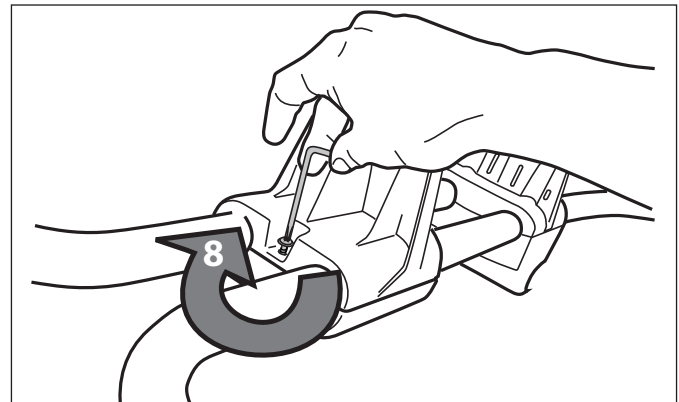

**Figure 5. Install the Handles**
- Insert the upper tubes (handles) into the bottom tubes on the cart as shown in Figure 5. Make sure the upper tubes (handles) are in the proper orientation and align the screw holes.